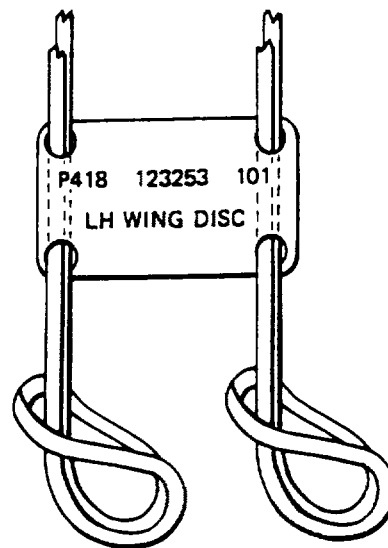

Figure 30. Installing Tape to Marker
94. A marker may be secured to the cable with lacing tape (Figures 30 through 32).